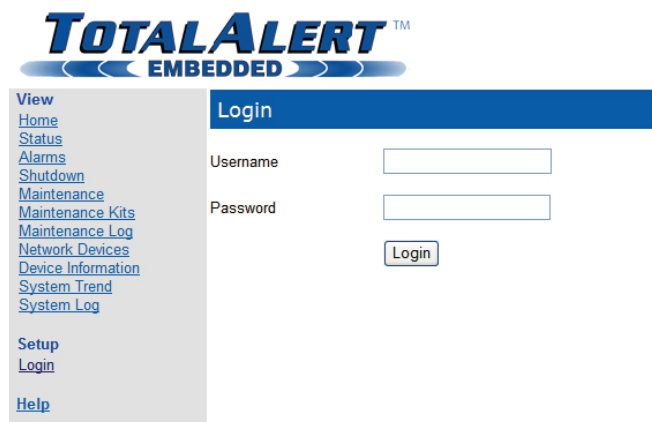

Figure A.29 Login for Setup Pages
2. Click "Login" on the menu bar in the left pane. The web browser will request a username and password (Figure A.29).